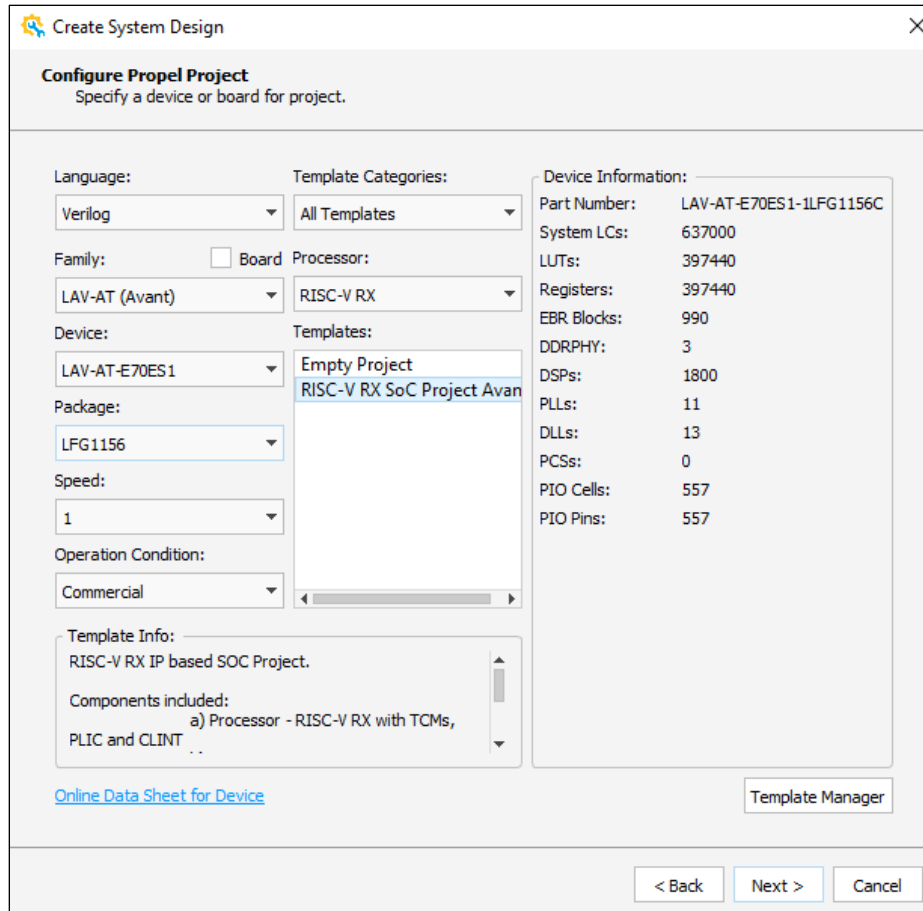

Figure 6.3. Create Propel Project
- In Configure Propel Project window, refer to Figure 6.3 and configure the settings based on the device or board that you use. Figure 6.3 shows the configuration used when LAV-AT-E70ES1 Development Board is used for the hardware testing. Click **Next**.